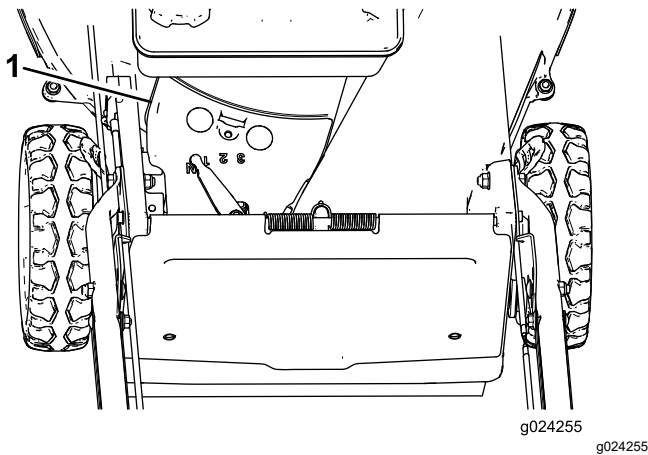

Figure 36
3. Remove the belt cover (Figure 36).